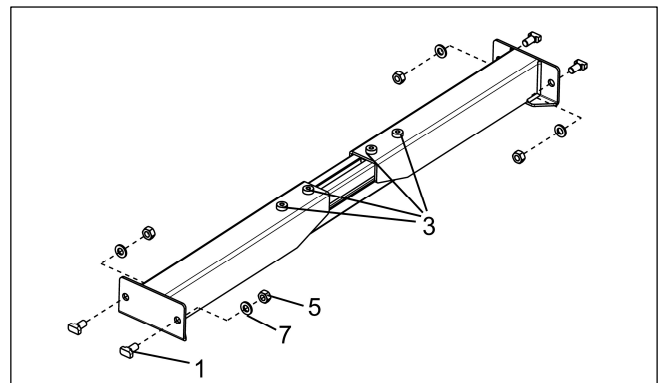

Fig.22
c. Pre-install fasteners "1", "5", and "7" in the designated positions, then loosen fasteners "3". (see **Fig.22**)